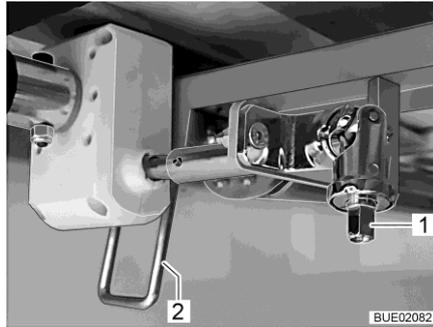

Fig. 150 Height adjustment
- Attach the crank onto the journal (Fig. 150,1).
- Swivel the lever (Fig. 150,2) downwards into vertical position.
- Swivel the lever (Fig. 150,2) upwards into horizontal position.